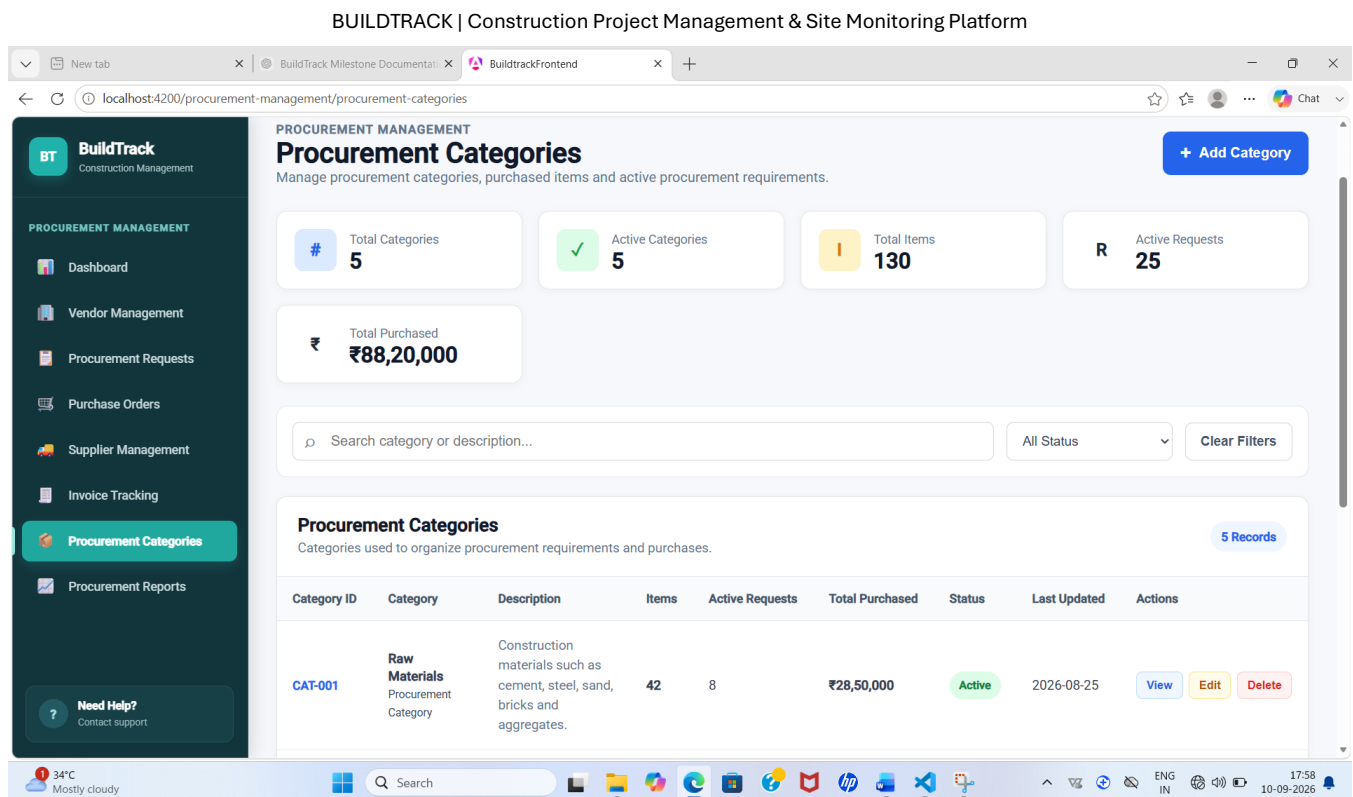

Figure 16: BuildTrack – Procurement Categories
- Figure 16 – Procurement Categories